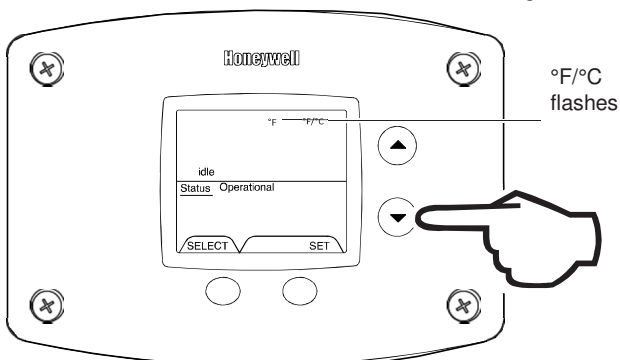

Figure 22
- 3b. Press 'Temperature Down' button to change temperature format to °F (Fig. 22).